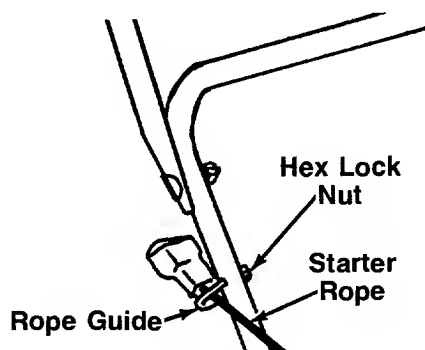

FIGURE 5.
3. Place the rope guide around the starter rope, so the rope guide is positioned as shown (bends downward slightly). Insert the rope guide through the right side of the lower handle, and secure with hex lock nut. See figure 5.